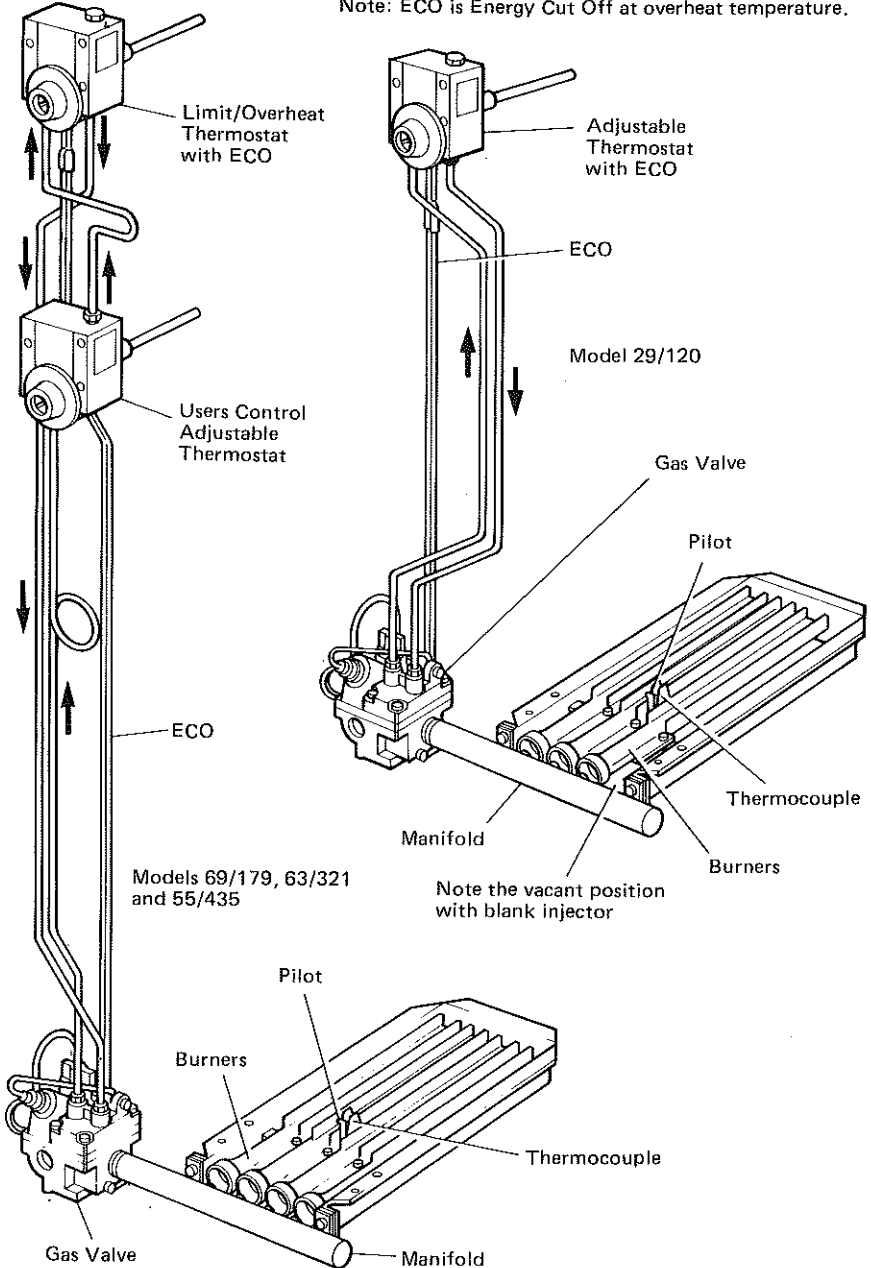

Fig. 19b Layout of Controls
4. Thermostat(s) should now be in the open position allowing gas to flow through tubing and controls in direction of arrows shown in Bleed Gas Control Systems Fig. 19b.